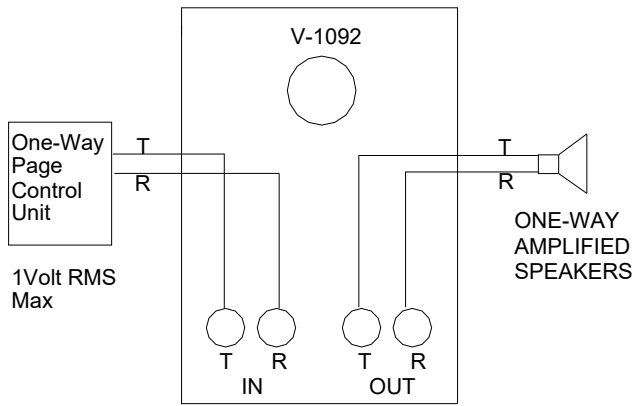

Figure 1.
- Connect wall mount volume control output to tip and ring if self-amplified speakers. (Refer to Figure 1).